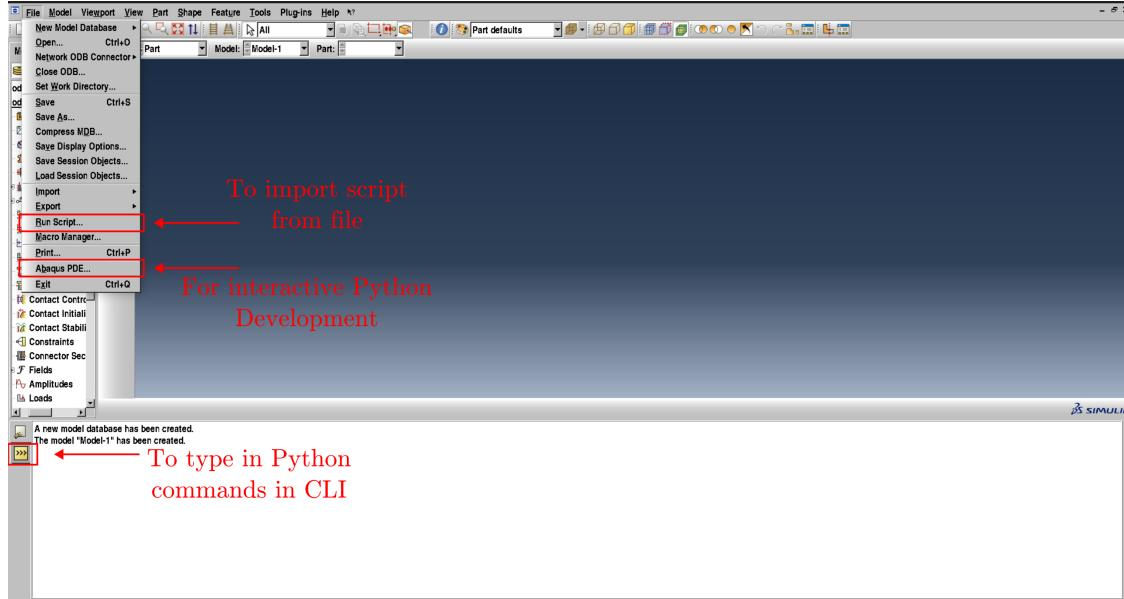

Figure 2: Options in Abaqus for Scripting
- Fig 2 shows a pictorial overview of the different options available in Abaqus for scripting support. The Abaqus PDE can be used for Abaqus python script development.